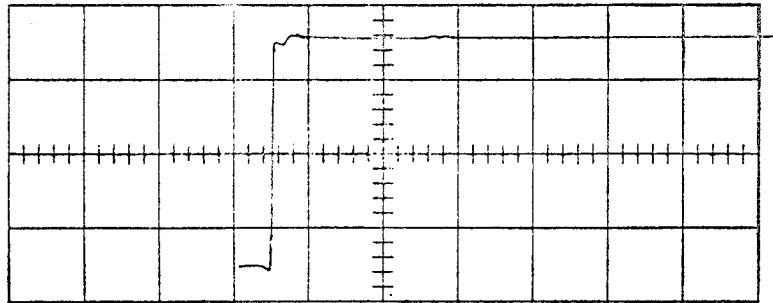

Fig. 3. Illustrating sharp dip in waveform caused by defective V1033 and/or V1043 (V1050 and/or V1052 in older oscilloscopes).
1. Does the waveform have a sharp dip over a short region to the right of the corner (Fig. 3)? If it does, the fault likely lies in